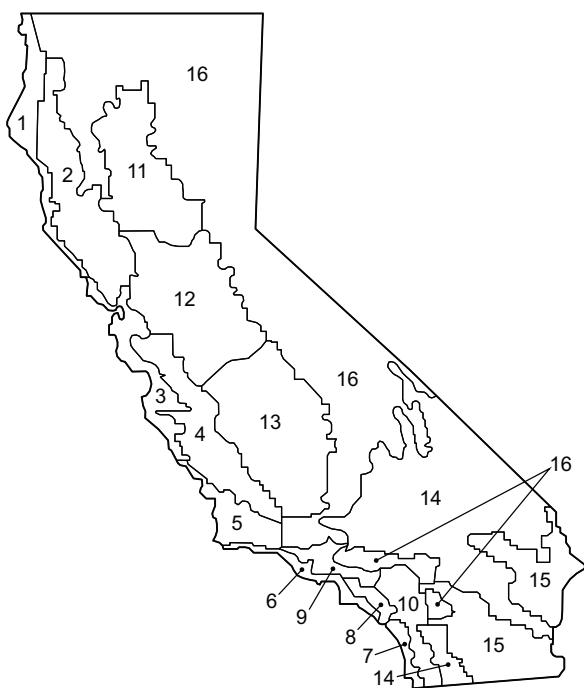

Fig. 85 – California Title 24 Zones
- Refer to Fig. 85 for map of California Title 24 zones.